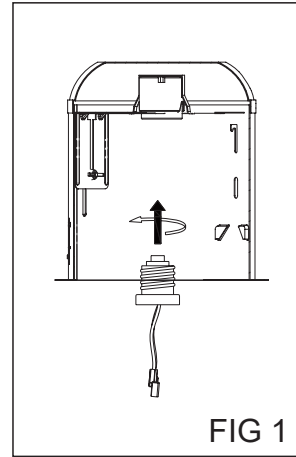

FIG 1
- Compatibility of housing not on this list maybe determined by measurement of the housing as detailed in the attached drawing (Figure 1)
2. Thread socket adapter into socket (FIG.1)